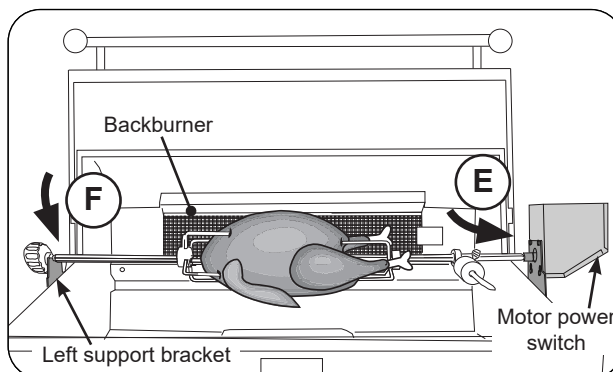

Fig. 34-4 Attach Rotisserie rod to motor
10. Insert the pointed-end of the rod into the motor drive socket (see Fig. 34-4, E). Then rest rod groove (next to the knob) into the left support bracket (see Fig. 34-4, F).